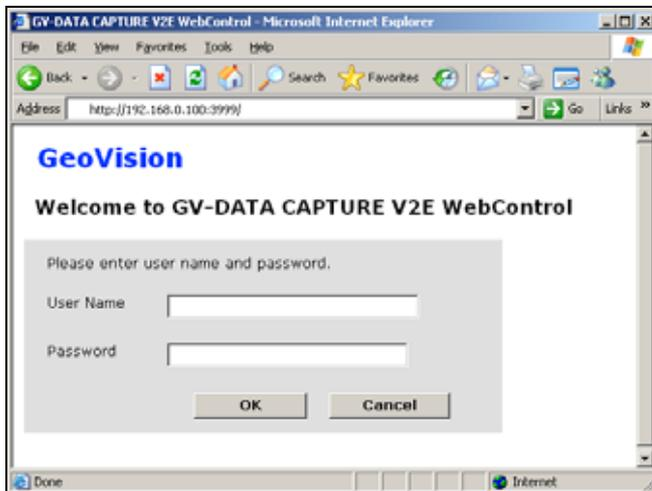

Figure 4
*Figure 4* page appears.
7. If you need to change or view the configurations of GV-Data Capture V2E, click **Browse Device Setting**, and *Figure 4* page will appear.
6. If you need to change or view the configurations of GV-Data Capture V2E, click **Browse Device Setting**, and *Figure 4* page will appear.